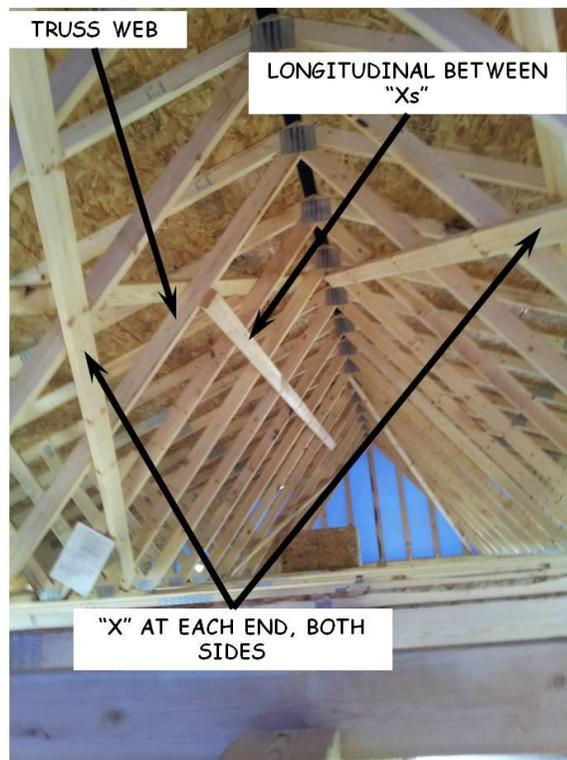

Figure 7-7. Truss Bracing.
1. After roof sheathing has been installed it is necessary to permanently install X-bracing (diagonal). This bracing prevents lateral movement of the truss system. The bracing is nailed to the truss webs as shown in Figure 7-7.
5. Connect the X-braces by nailing one long 2x4, horizontally, to the truss webs, about halfway down from the peak. Each end of the longitudinal bracing must be nailed to at least two truss webs to which an X brace is nailed (see Figure 7-7). If more than one longitudinal 2x4 is required to span the distance, overlap at least two trusses where they meet.